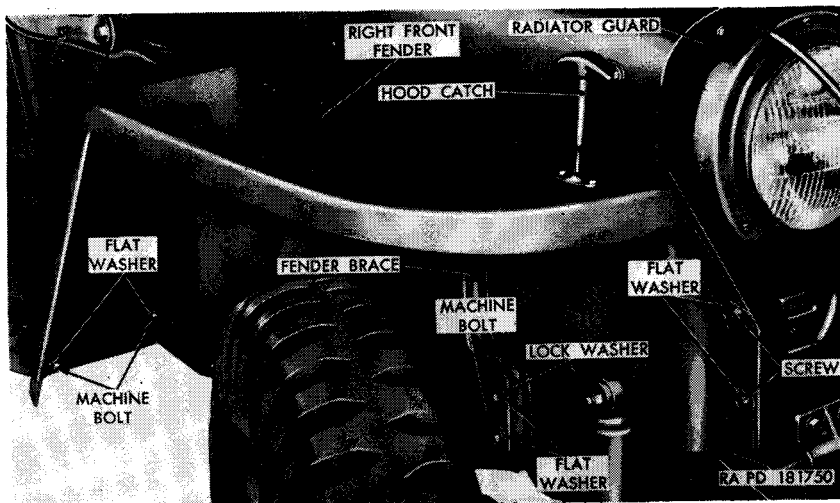

Figure 128. Right front fender.
- (2) *Right front fender.* Raise hood and rest it against windshield frame. Remove the bolt and plain nut securing the clip for the battery-to-battery cable (fig. 68) to the fender and pull clip and cable away from fender. Remove the wing nuts and lockwashers securing the battery box-to-fender straps (fig. 68) to the fender. Remove the three screws, and flat washers securing the fender to the radiator guard (fig. 128). Remove the two bolts, lockwashers, and flat washers securing the fender brace (fig. 128) to the frame. Remove the three bolts, lockwashers, and flat washers (fig. 128) securing the rear of the fender to the body and pull fender to the right and remove.
- (2) *Right front fender.* Position the fender on the body, aligning the mounting holes with the mounting holes in the body, frame, and radiator guard. Secure the fender brace to the frame with two  $\frac{3}{8}$ -inch lockwashers,  $\frac{7}{16}$ -inch flat washers, and  $\frac{3}{8}$  x  $\frac{3}{4}$  bolts (fig. 128). Secure the rear of the fender to the body with three  $\frac{5}{16}$ -inch lockwashers,  $\frac{7}{16}$ -inch flat washers, and  $\frac{5}{16}$  x  $\frac{5}{8}$  bolts (fig. 128). Secure the front of the fender to the radiator guard with three  $\frac{5}{16}$ -inch flat washers and  $\frac{5}{16}$  x  $\frac{7}{8}$  screws (fig. 128). Position the battery box-to-fender straps over the bolts in the fender. Install two  $\frac{5}{16}$ -inch lockwashers and  $\frac{5}{16}$ -inch wing nuts on the bolts. Position the battery-to-battery cable and clip against the fender and secure in position with a No. 10 x  $\frac{5}{8}$  bolt and No. 10 plain nut.
*a. Removal.* Open the hood and disconnect the headlight and blackout marker light cables (fig. 129) at the left side of the vehicle. Loosen the six screws and flat washers securing the radiator guard to the right and left front fenders (figs. 128 and 127). Tilt the guard forward until slots in hinges are aligned with hinge pins and lift guard (fig. 129) off vehicle.